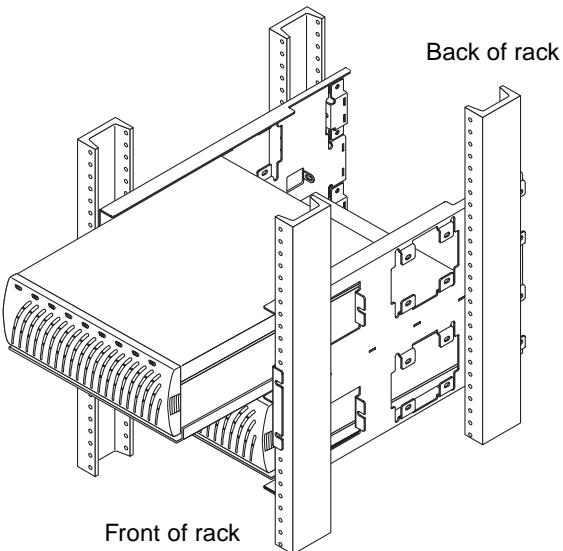

FIGURE 12 Installing a Second Array
4. Repeat Step 1 through Step 3 to install a second array (FIGURE 12).